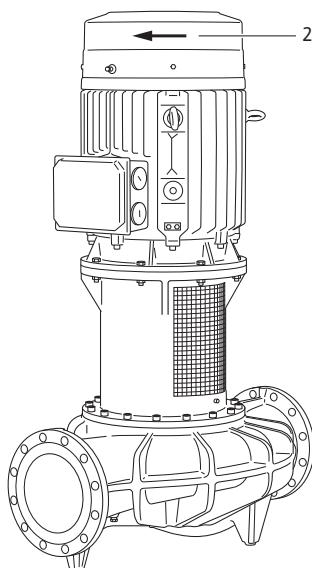

Fig. 37: Checking the direction of rotation
- By briefly switching on, check whether the direction of rotation agrees with the arrow on the fan cover (see Fig. 37, Item 2). If the direction of rotation is incorrect, proceed as follows: